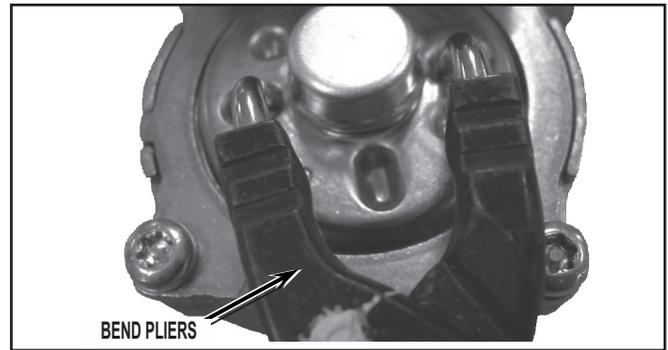

FIGURE 25
29. Position a pair of bend pliers into the slots of the cover dial. See *Figure 25*.